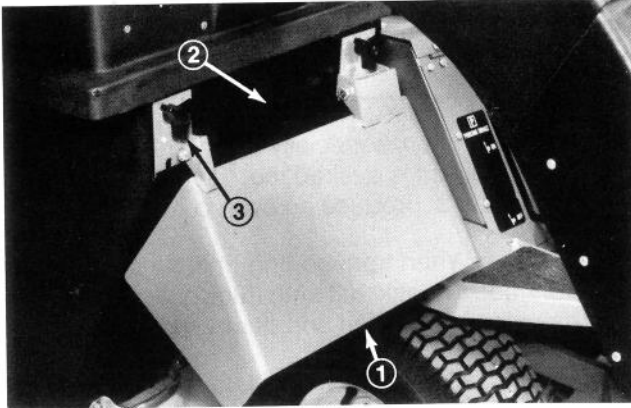

Figure 15
1. Position deflector mounts on outside of pivot brackets and secure parts together with capscrews, lock nuts and springs (Fig. 15). Both lock nuts must face each other. Tighten locknuts until they are flush against deflector pivots. Lift deflector and allow to drop to check spring tension.
2. Mount cutting unit grass deflector to front of hopper frame with (2) knobs and washers when using grass catcher (Fig. 15).